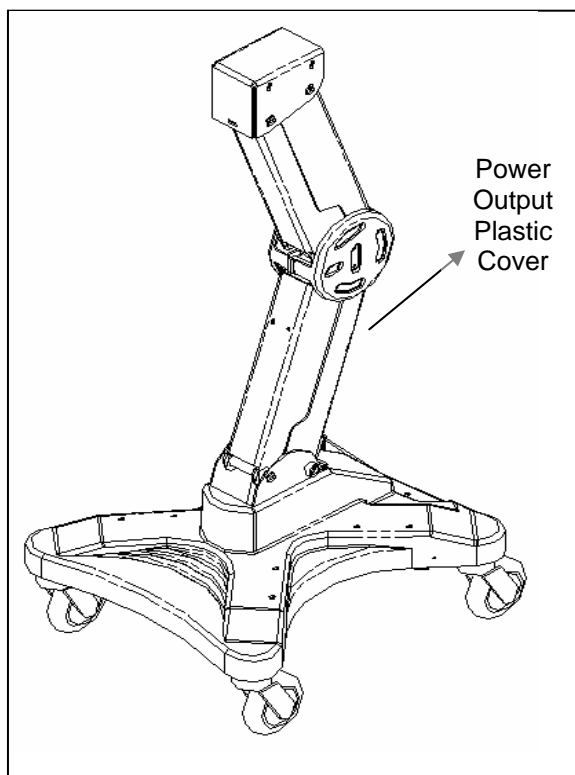

Fig 2: Location of plastic cover
- 5** Locate the power output plastic cover on the back side of the base. Remove the power output plastic cover and verify that all cables have no physical defects and are properly secured to each power output channel (Fig 2):